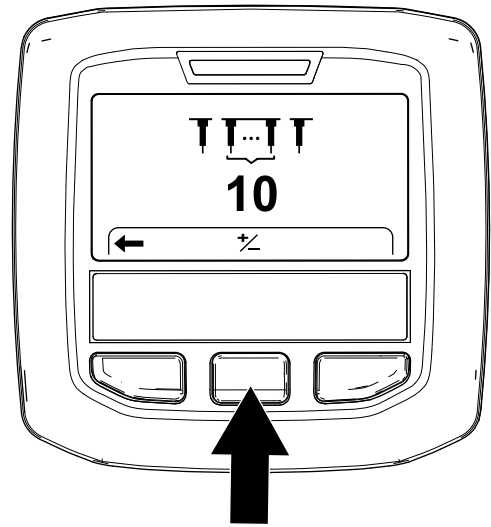

Figure 61
3. Press the right InfoCenter button until the Setting the Tine Quantity screen displays (Figure 61).